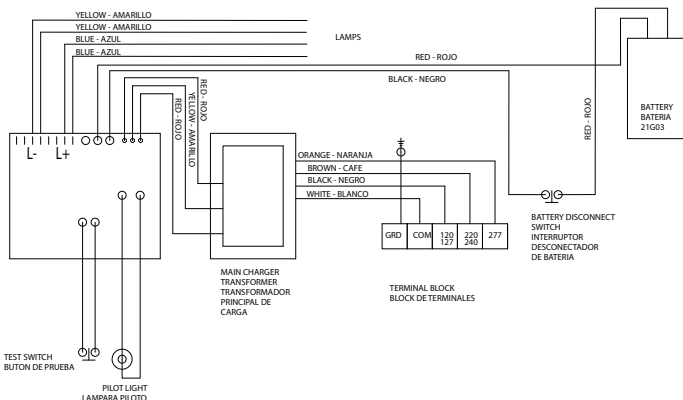

Figure 7. Wiring Diagram
6. Remove the mounting stud and pillar located in the uppermost left corner of the interior. Remove the three (3) other hold down nuts and lock washers on the aluminum backplate. Remove the old interior assembly and set aside.
7. Install the new interior assembly using the three (3) remaining hold down nuts and lock washers removed from terminals L+ and L-.
- Make all incoming wiring connections following the wiring diagram located in the new assembly (also see Figure 7) and reconnect the EVLA12 light fixture(s) or EXIT sign wire leads removed in Step 5.